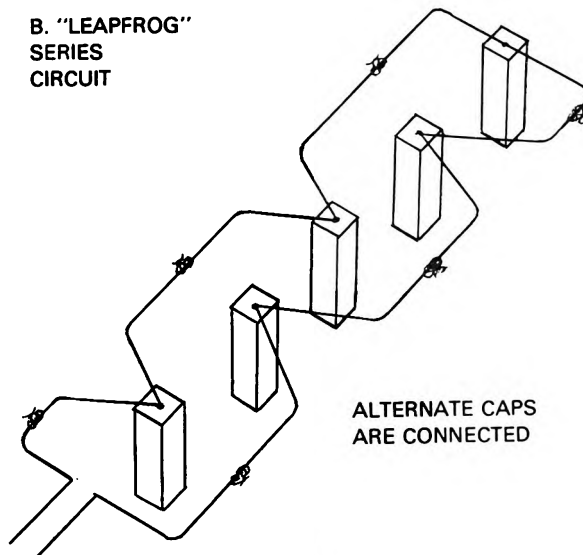

Figure 6b.
(2) Leapfrog series is useful for firing ditching charges or any long line of charges. It consists of omitting alternate charges on the way and then connecting them to form a return path for the electric impulse to reach the other lead by the firing wire. This brings both end wires out at the same end of the line of charges, and thus eliminates laying a long return lead from the far end of the line of charges back to the firing wire (figure 6b).